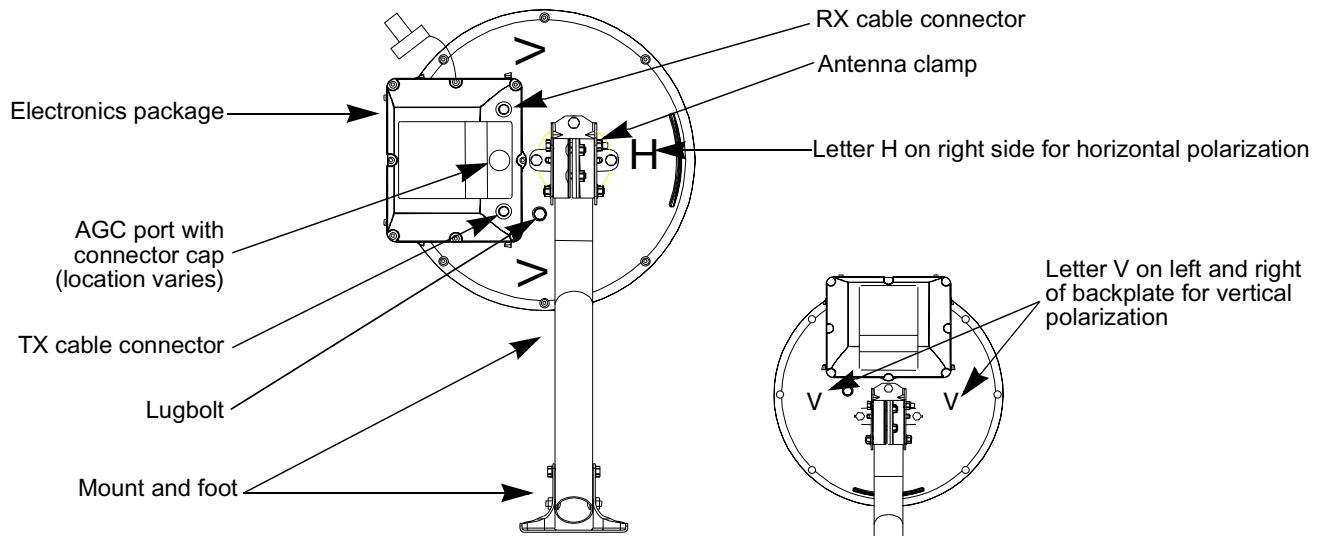

Figure 3. Antenna Polarization (Rear View)
2. For horizontal polarization, attach the antenna clamp on the RTU antenna so the letter “H” is to the right of the backplate as shown Figure 3. For vertical polarization, attach the antenna clamp on the RTU antenna so the letter “V” is to the right of the backplate.
If an RTU is mounted to a platform attached to the main building lightning protection system, attach a lightning ground wire from the lugbolt on the antenna (see Figure 3) to the RTU foot.
If an RTU is mounted to a platform that is NOT attached to the main building lightning protection system, connect the lightning grounding wire to the antenna lugbolt (see Figure 3) and then to the grounding rod outside the building at ground level.